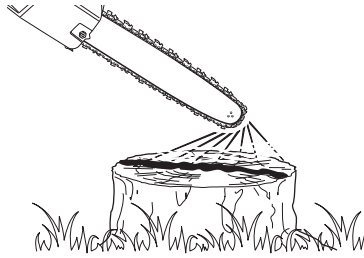

Fig. 14
2. Make sure the guide bar (4) and the saw chain (3) are in place when you check the oil delivery.
3. Switch on the product (see section “on/off switch” below); keep pressing the on/off switch (18) and check if the chain oil is delivered as shown in the figure (Fig. 14).